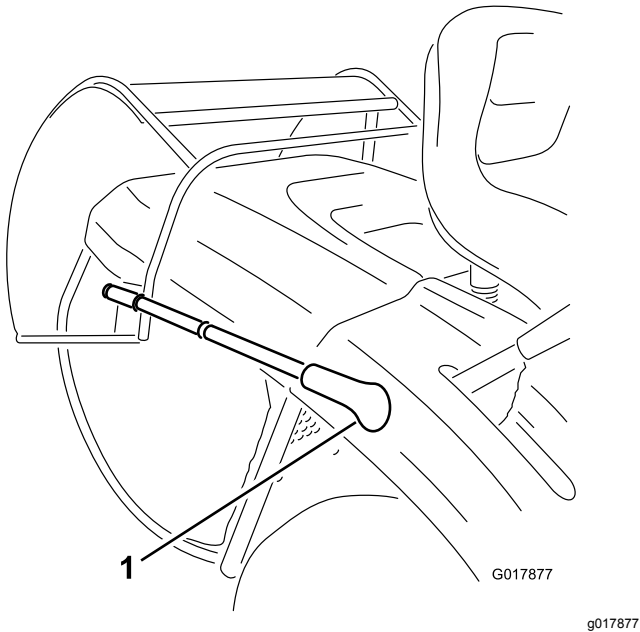

Figure 16
3. Pull the grass collector dump lever forward and tilt the grass collector (**Figure 16**).